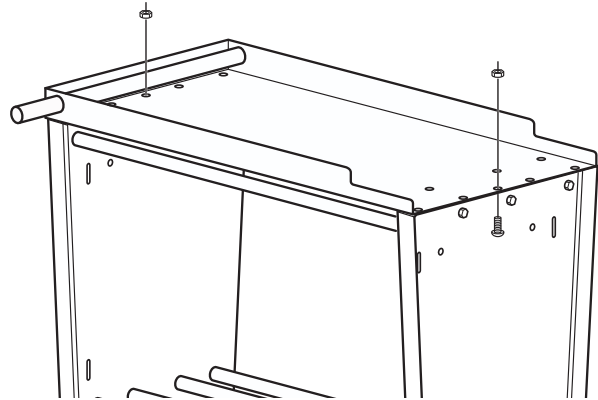

Figure 4-5
- Align the center mounting hole on each Side Panel flange with the center mounting hole on each end of the Base (see Figure 4-5). Attach using two Round-Head Square-Neck Carriage Bolts (item #4) and two M10 Nylock Hex Nuts (item #16). **Do not fully tighten nuts at this time.**